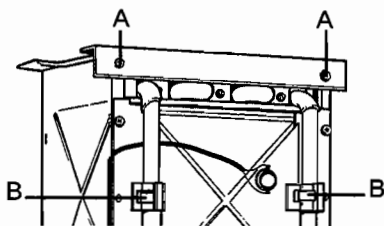

Fig. 21
- a) Remove the two screw (A) holding the deflector plate in position (see fig. 21).
- c) Disconnect joints where heating body joins heating body legs (B) (see 6.8)